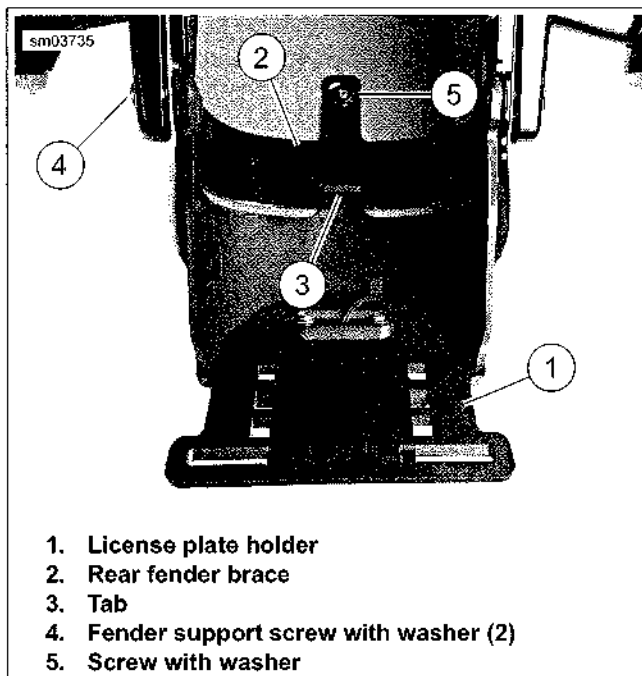

Figure 6-53. License Plate Holder: XL 883N, XL 1200X/V (HDI)
- See Figure 6-53. Remove two fender support screws with washers (4). Remove screw with washer (5) securing rear fender to fender brace (2). Remove fender brace and license plate holder assembly (1).